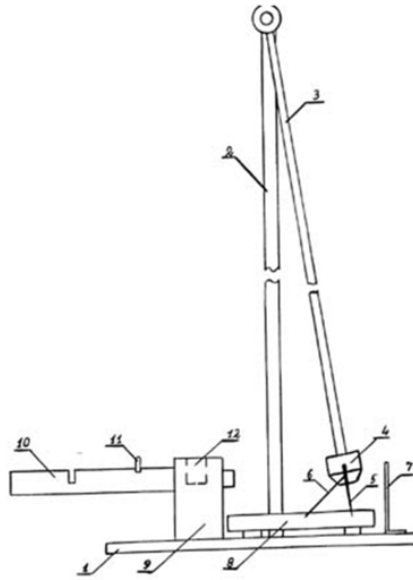

Fig. 4.1. A physical pendulum
Experimental setup (Fig. 4.1).
3. Using handle 11 (Fig. 4.1) compress the gun spring and lock it by turning the handle counter-clockwise.